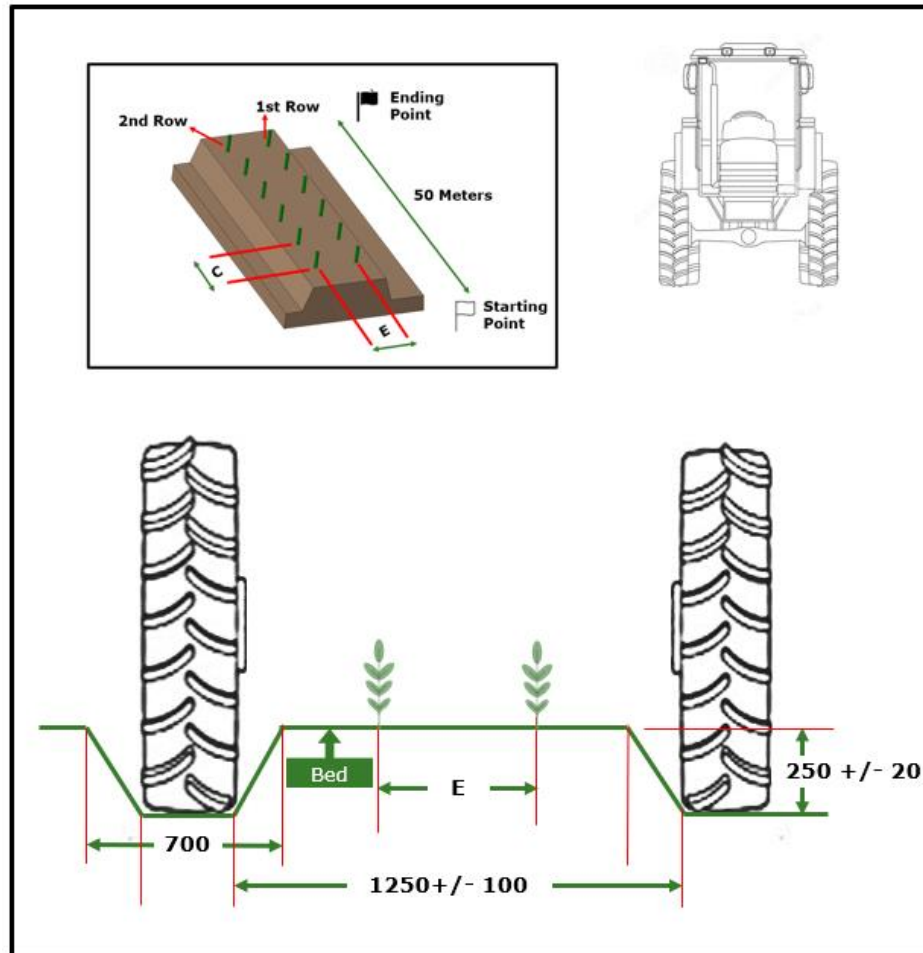

Fig. 6 Bed Dimensions (in mm)
- IV. The general arrangement of an acceptable sleeved joint is shown in Fig.6 below.